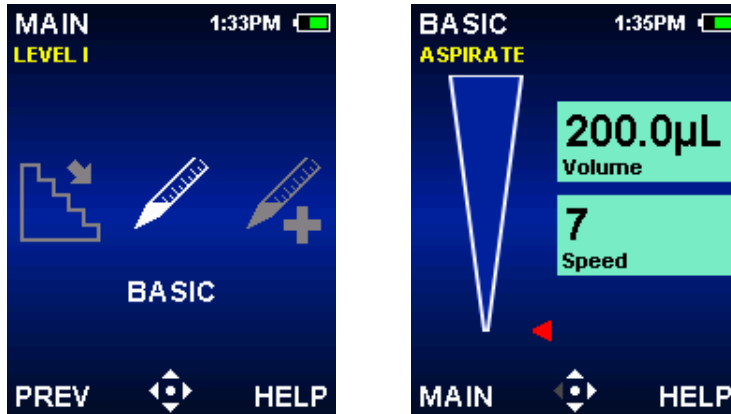

Figure 8: Basic Mode Highlighted in Level I Menu (left), Basic Mode Operating Screen (right).
1. In the Main Menu, ◀ or ▶ to highlight **BASIC** (Figure 8 left).
2. ●, ▲ or ▼ to enter Basic Mode (Figure 8 right).